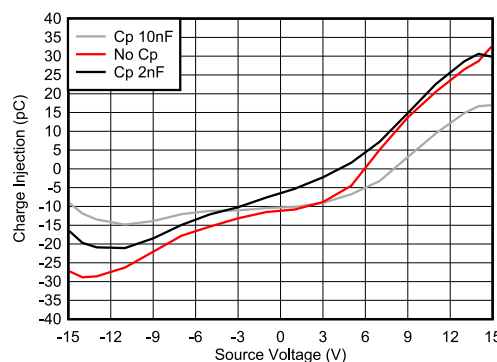

Figure 7-3. Charge Injection Compensation
The TMUX6219-Q1 contains specialized architecture to reduce charge injection on the source (Sx). To further reduce charge injection in a sensitive application, a compensation capacitor (Cp) can be added on the drain (D). This will ensure that excess charge from the switch transition will be pushed into the compensation capacitor on the drain (D) instead of the source (Sx). As a general rule, Cp should be 20× larger than the equivalent load capacitance on the source (Sx). Figure 7-3 shows charge injection variation with source voltage with different compensation capacitors on the Drain side.